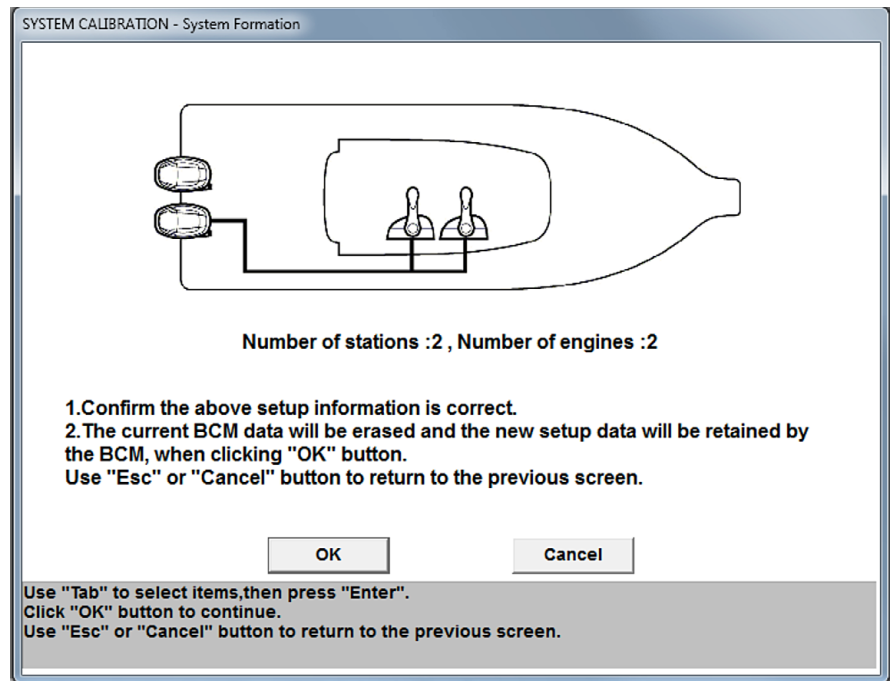

Figure 7-4. System calibration graphical confirmation window.
3. A confirmation window similar to figure 7-4 will be shown. Ensure the information is correct, then click **OK**. Click **Cancel** to return to the previous screen if you need to make a change.